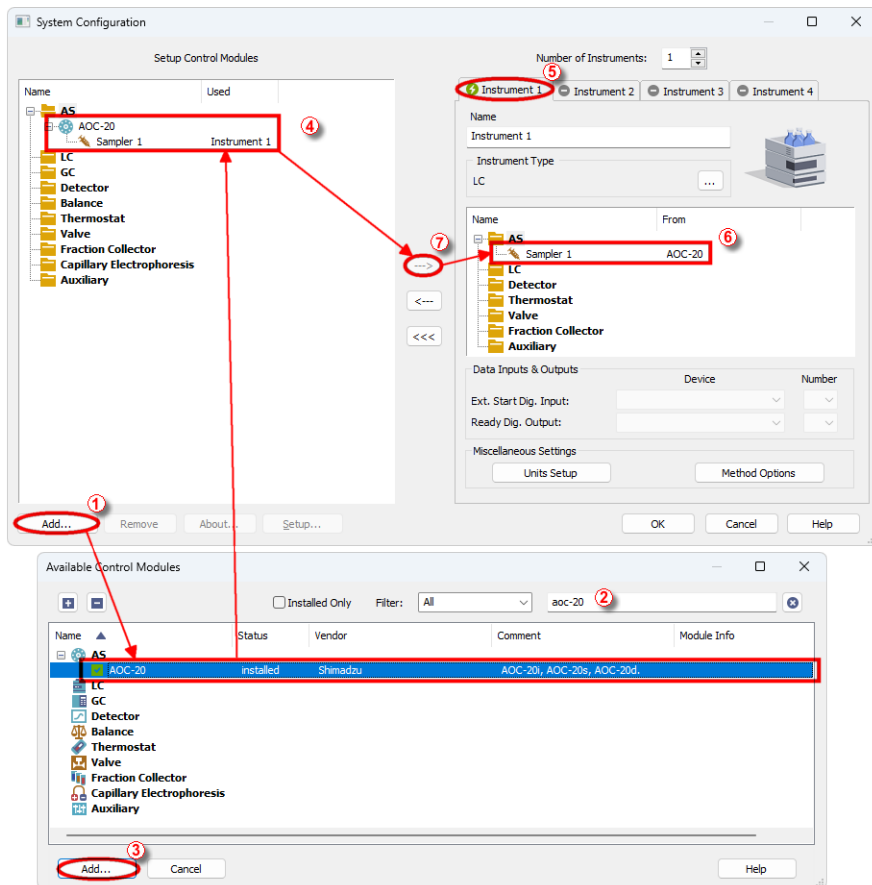

Fig. 4: How to add Shimadzu AOC-20
- Press the **Add** button ① (see Fig. 4 on pg. 5.) to invoke the *Available Control Modules* dialog.
- You can specify the searching filter ② to simplify the finding of the driver.
- Select the **AOC-20** sampler and press the **Add** ③ button.